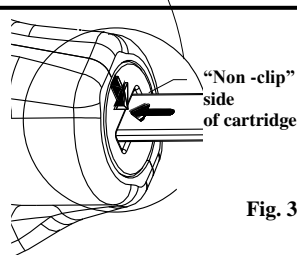

Fig. 3
3. Align the arrow on the back of the clip applier with the arrow of the cartridge as shown in fig 3 (Arrow of the cartridge should be seen on the "non-clip" side of the cartridge).